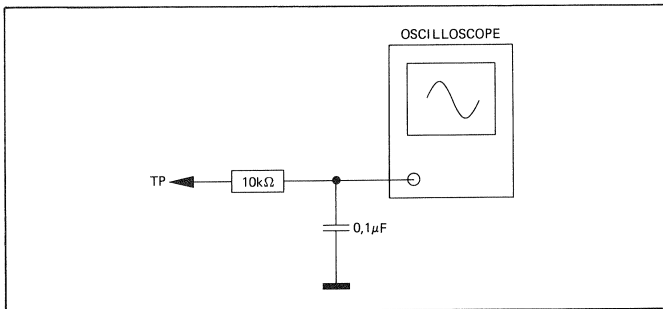

Fig. 4.7.3
- Connect oscilloscope to the test point TP via an RC element as illustrated in Fig. 4.7.3.